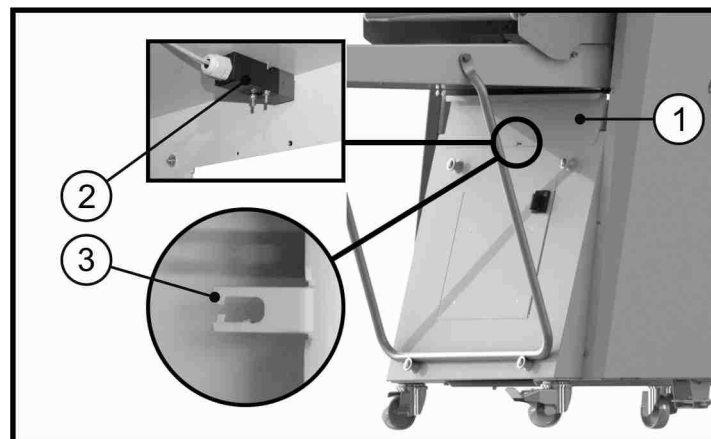

Figure 10
The machine is fitted with an excess flour collection drawer (ref. 1 Figure 10). There is a safety microswitch ref. 2 Figure 10 the machine that inhibits operation if the drawer is pulled out (for example to empty it and/or clean it). The microswitch is enabled/disabled using the key present in drawer ref. 3 Figure 10.
- After inserting the table, rest the work table support ref. 8 Figure 10 on the corresponding supports located on the base